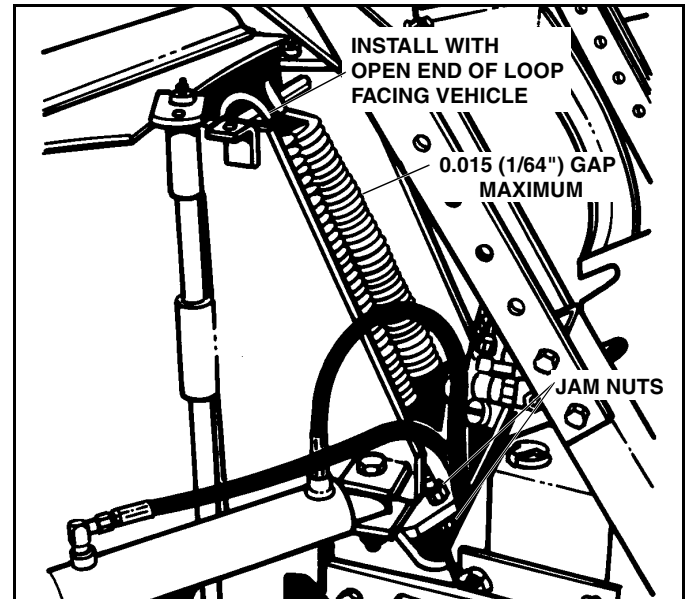

Figure 2-22
2. Check to make sure that the spring is installed as illustrated with open end of top loop facing vehicle. (See Figure 2-22).
3. Using a 15/16" socket wrench through the holes in the bottom plate of the main frame, loosen the two (2) 5/8" nuts on the trip spring eyebolts. (See Figure 2-22).